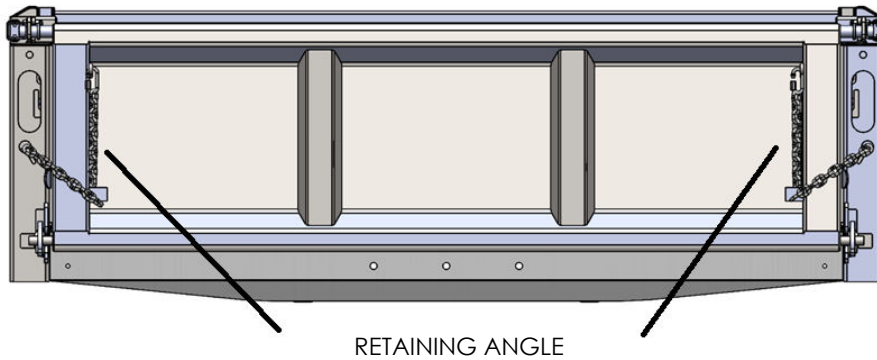

FIGURE 7
3. The amount the tailgate will open bottom up can be limited by using the tailgate chains. In limiting the amount the tailgate opens bottom up, a chain on each side of the tailgate is run first through its respective tailgate retaining angle and then to its respective chain clot located on the rear corner post as shown in Figure 7.